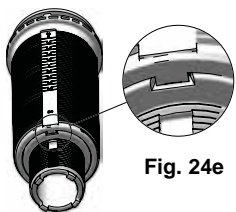

Fig. 24e
- Refit the dosing pump body in the dosing body using the centring pins (**Fig. 24e**)